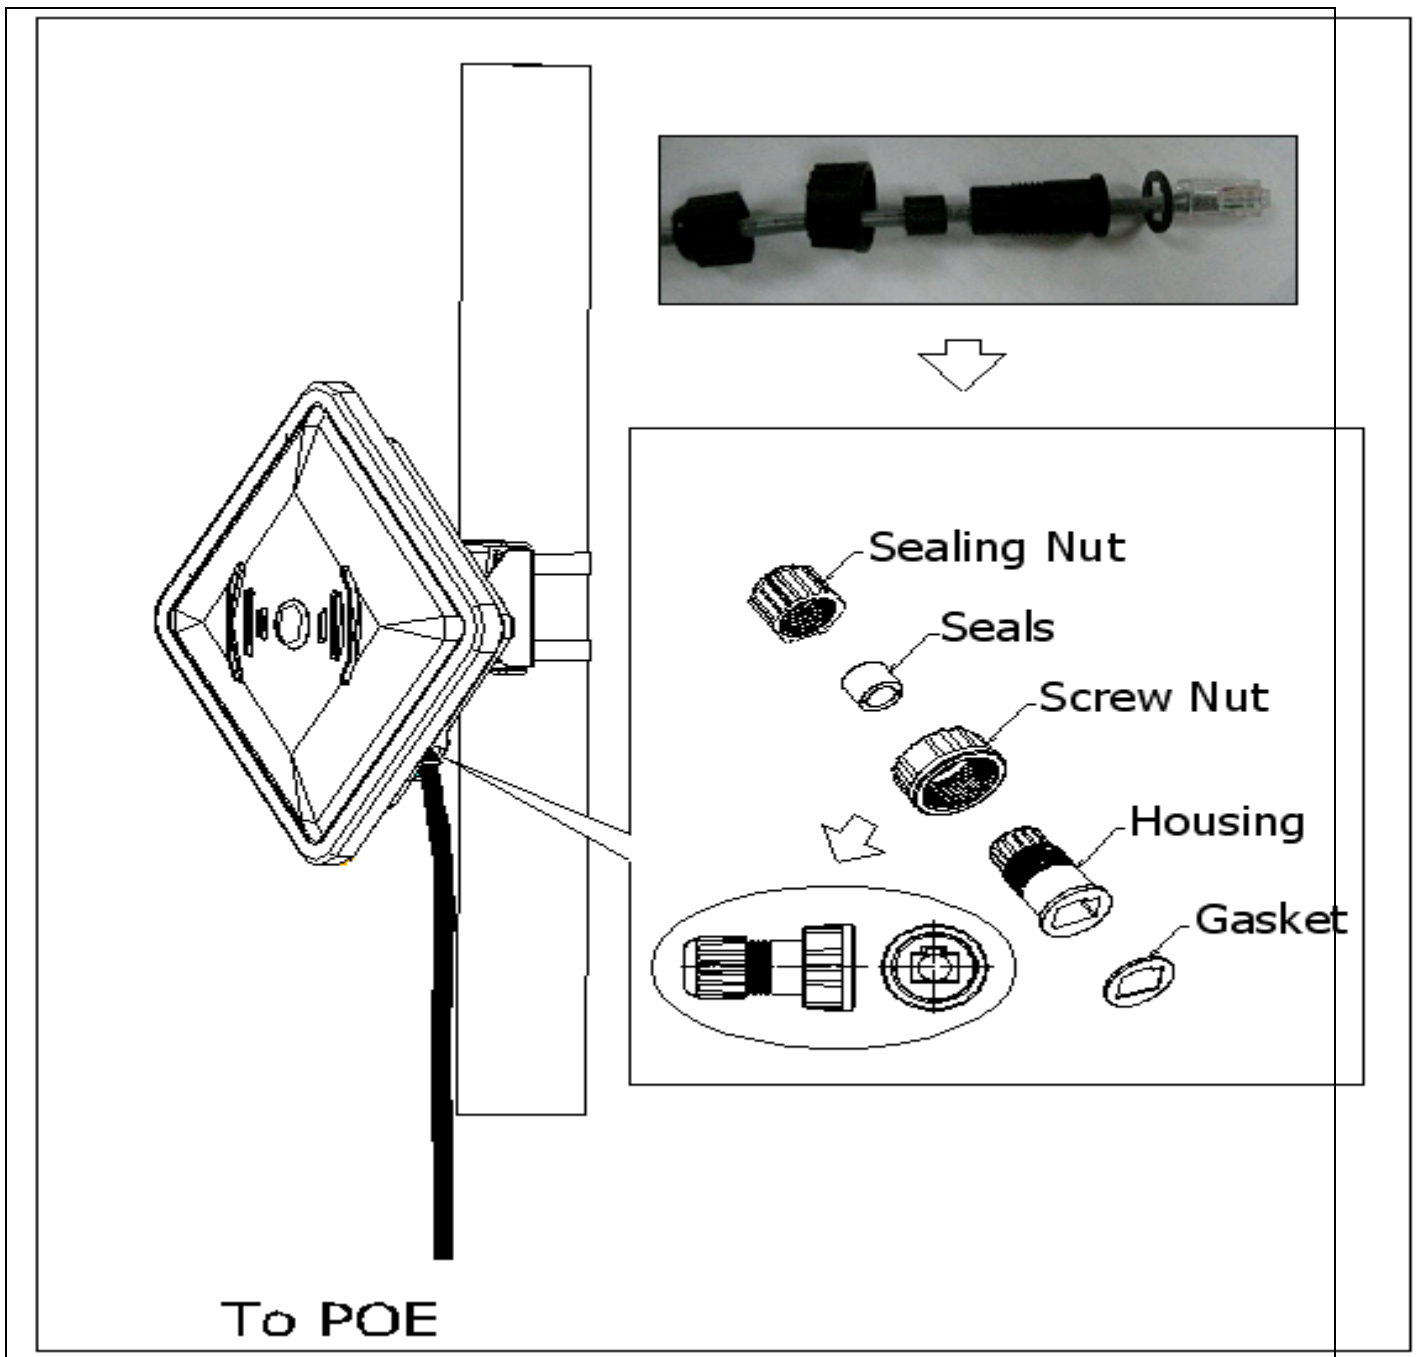

Figure 5: Ethernet installation
4. Install CAT-5e cable to “To Ethernet” port of POE Injector as shown in Figure 5.